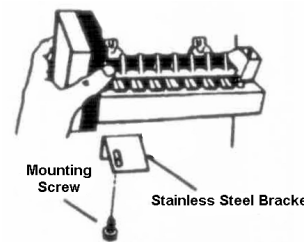

Figure 6
6. Attach stainless steel mounting bracket using screw provided screw (see Figure 6).